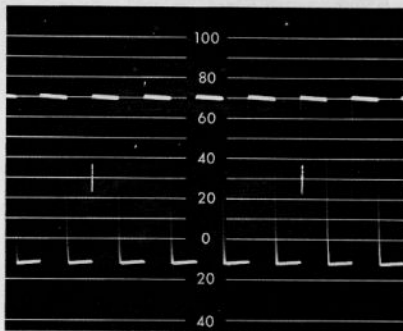

Figure 53—HW Servo
- d. HW—The 240-Hz (nearly square wave) should be present with a pip on the slope as shown in figure 53.